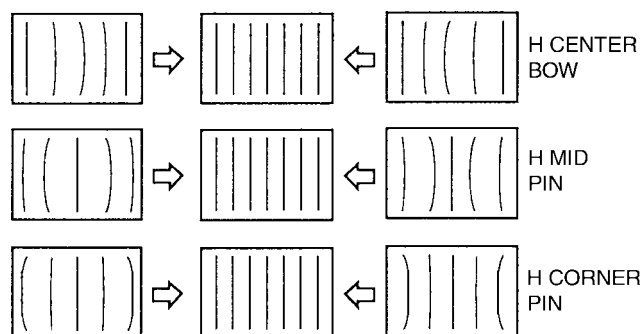

Fig. 1-11
11. Adjust the H CENTER BOW, H MID PIN, and H CORNER PIN data as shown in Fig. 1-11.